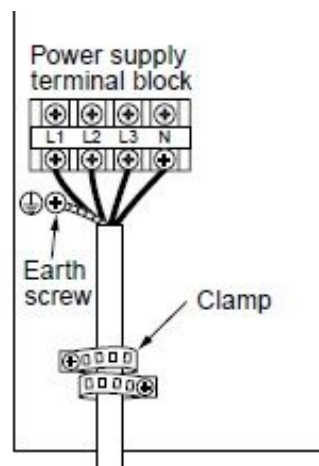

Fig 1
- 1) Confirm that the power supply at each outdoor unit is correct, three phase and neutral 380 – 400 volts 50 Hz AC, SHRMe (Fig 1).